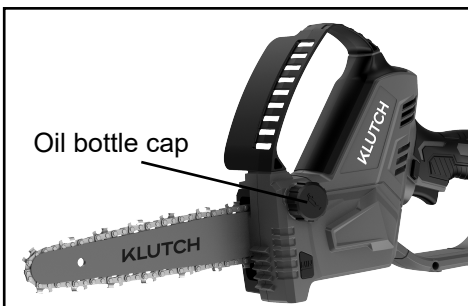

Fig.4
**Adding the chain lubricating oil (Fig.4)**